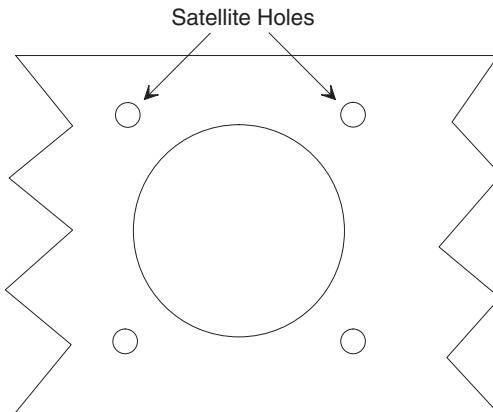

Figure 2-04 — Satellite Holes
- 2.15 Satellite Holes - A satellite hole is the smaller of two holes which has less than 0.40 inch distance between the edges of the holes. The smaller holes should be filled with a steel pin prior to coldworking the larger hole. The steel pin shall have a diameter less than the start hole diameter, but not greater than 0.002" under the start hole size. The purpose of these pins is to prevent the collapse of these holes during the coldworking of the larger hole. Ref Fig. 2-04.